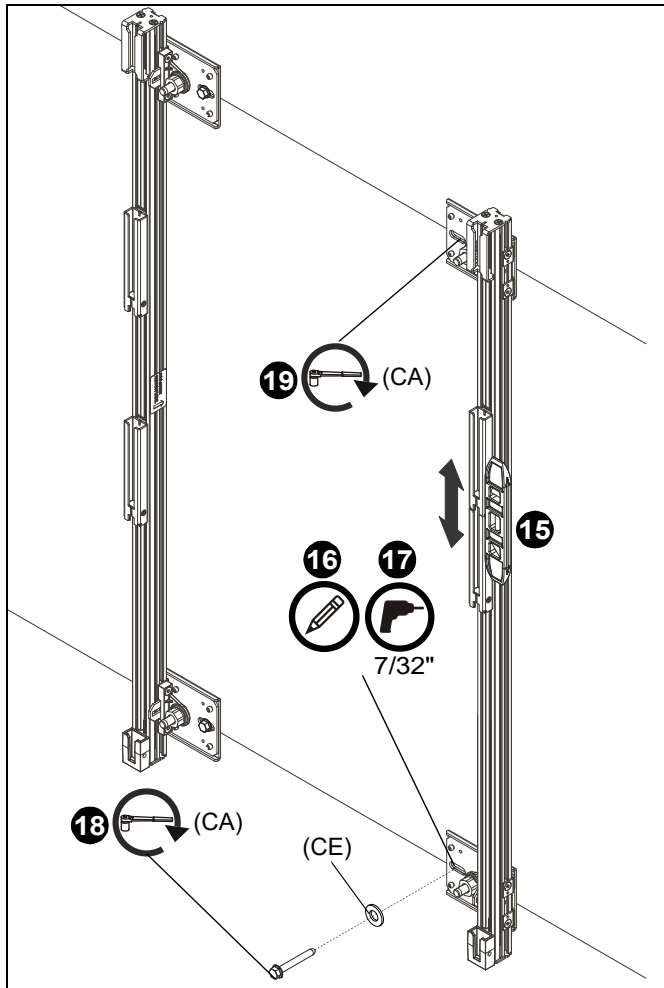

Figure 7
15. Slide the H-blocks together within the extrusion and attach a magnetic 2-foot level to side of upright. (See Figure 7)
16. Mark mounting hole location along lower line based on horizontal locations determined in Step 2a. (See Figure 7)
17. Drill a 7/32" hole at the location of the first lower mounting hole. (See Figure 7)
18. Use 5/16 x 2 1/2" hex head lag screw (CA) and 5/16" washer (CE) to install right upright (B) to wall at lower mounting hole. Center the lag bolt horizontally along mounting slot. (See Figure 7)
19. Hold mount upright and tighten upper lag bolt (CA) that was partially installed in Step 14. (See Figure 7)